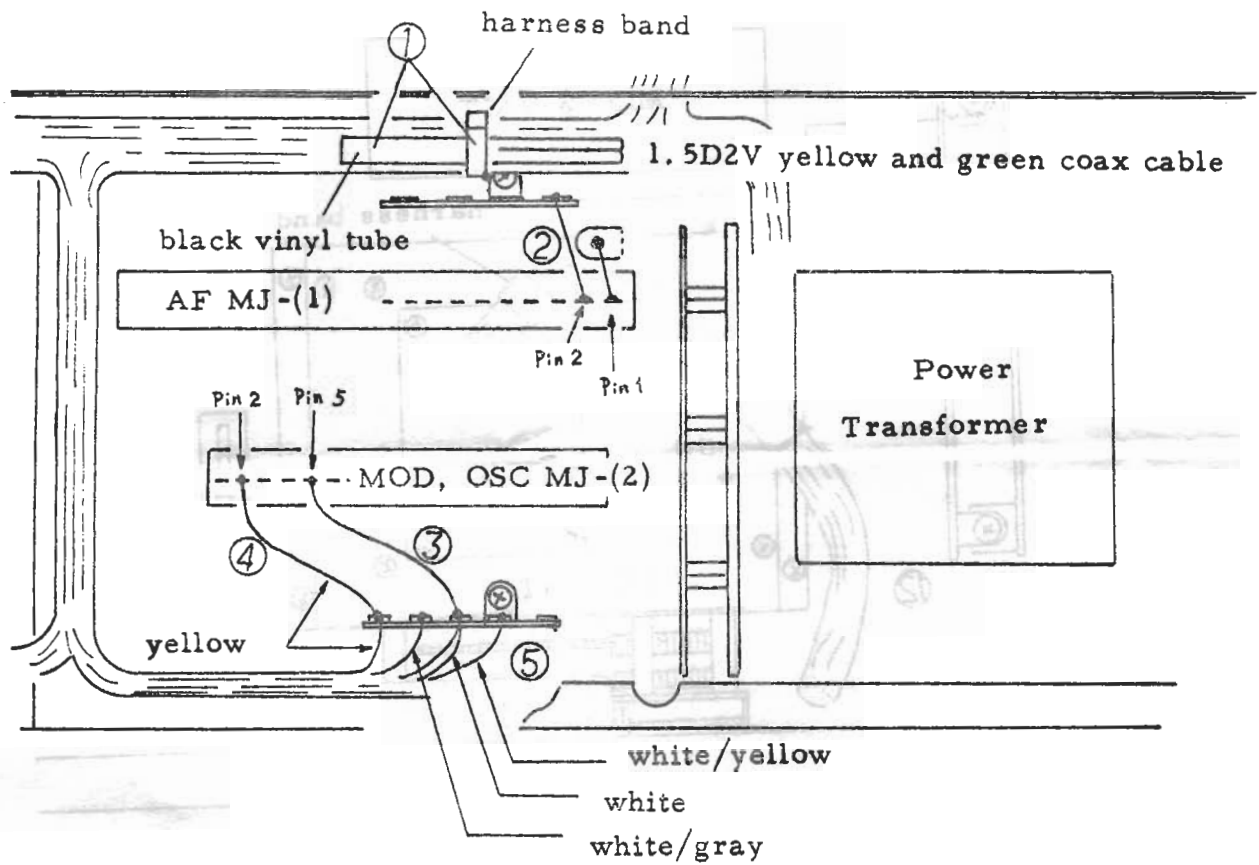

Fig. 1
- (a) Locate black vinyl tube and cut a harness band as illustrated by (1) in Fig. 1 and remove the black vinyl tube from the yellow and green colored coax cable. As the coax cables are longer than necessary, cut a 50 mm piece from the end.